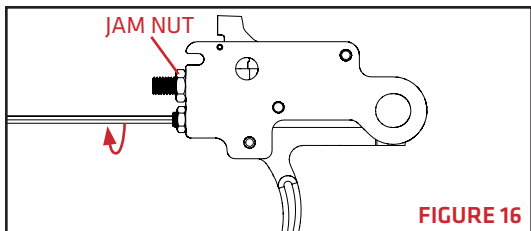

FIGURE 16
4. Turn the over travel screw counter clockwise one quarter of a turn and lock into place by turning the brass jam nut until it is tight against the trigger housing (**FIGURE 16**).